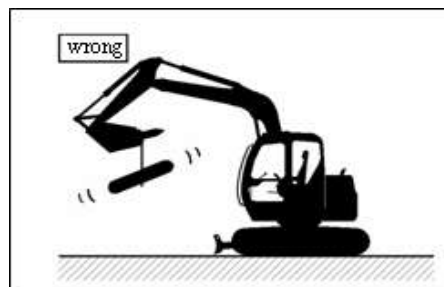

Figure 3.8.6
- (8) Don't operate hydraulic breaker in water.
- (9) Don't lift objects with hydraulic breaker, otherwise it will cause machine upset and (or) breaker damage (As figure 3.8.6).